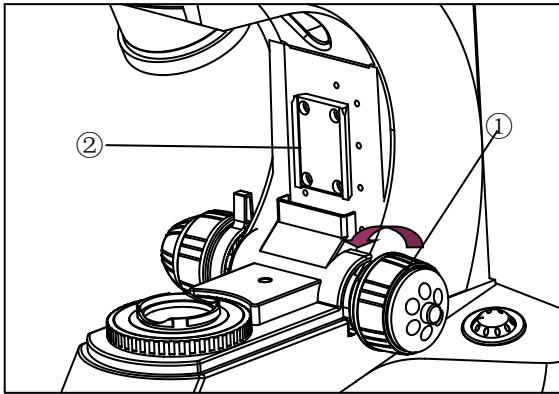
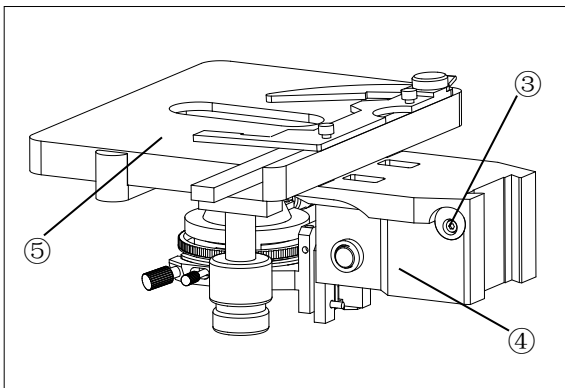

Figure 1
Figure 2
★ Before installing the device, be sure to adjust the coarse focus knob ①. Make the guide board ② (see figure 1) down to the lowest position, so you can install the mechanical stage support device easily.
◇ Hold on the mechanical stage support device (figure 2), place it from the top of the guide board (figure 1), let the device (figure 2) falling free until it reach the limit position. Use the hexagon wrench screw down the locking block ③, make the stage support device (figure 1) and the guide board fixed together.